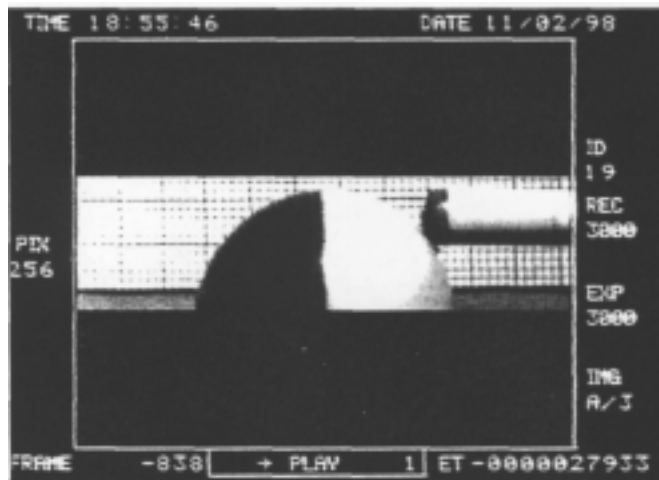

Fig. 2: This model demonstrates how the ball's rotation can throw the cue tip off-center -when English is applied.
**Figure 2** is a typical view of a side-spin shot, again seen from above. The ball began with the line between the light and dark areas placed perpendicular to the stick, so it has started to rotate a little. The cue stick, which started out several millimeters closer to the center of the ball than in the image, has been moved to the side by the ball's rotation. The dark cloud which is just visible between the tip and the ball is the chalk dust that flies in all directions on spin shots. Below the ball the ball is a grid with minor divisions every 2 millimeters and major divisions each